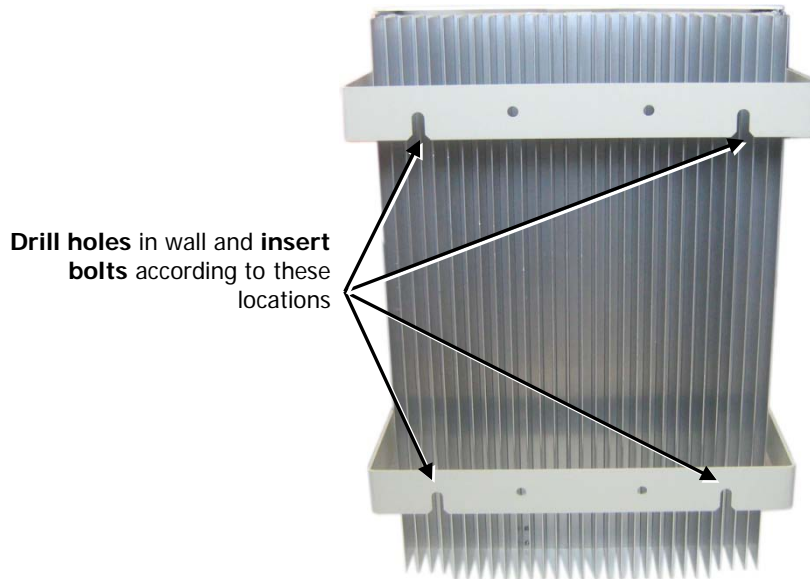

Figure 2-9: Bracket Holes for Wall Mount
2. MEASURE AND MARK the location of the mounting holes (outer side) on the wall according to the Wall Mount Brackets assembled on the unit (see Figure 2-9).